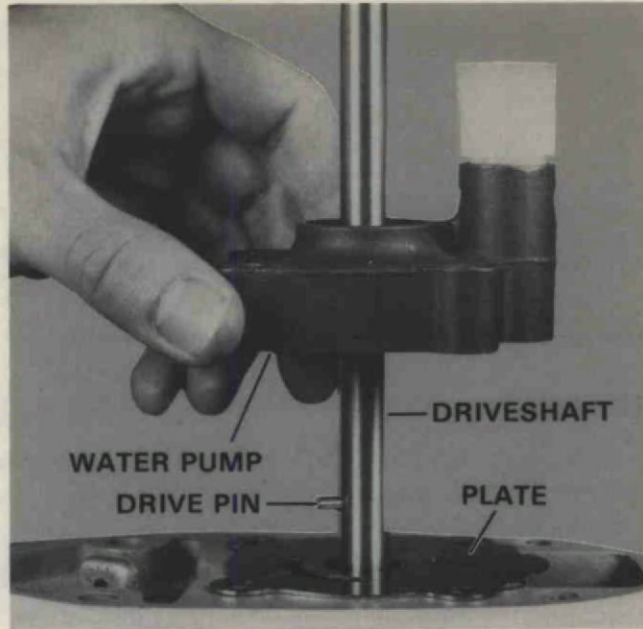

Figure 19. Removing Water Pump.
A. Remove four (4) hex screws securing pump to upper gear housing. Figure 19.